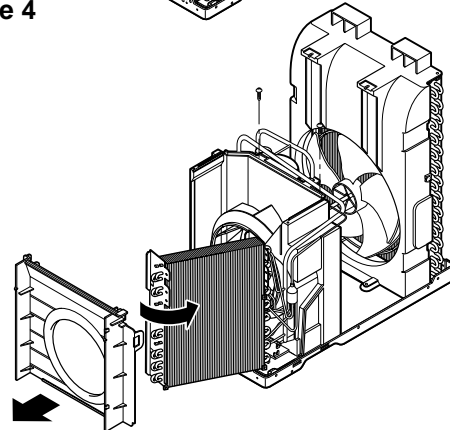

Figure 5
9. Move the evaporator forward while pulling it upward slightly. (See Figure 5)